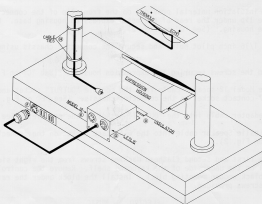

Fig. 2
6. Loosen but do not remove the four screws securing the expression housing to the wooden base of the console. (See "C" on Fig. 2).
7. Place the insulation material provided on the front lip of the connector chassis. Insert the lip under the rear of the metal expression housing base. Center the chassis behind the housing. (See "D" on Fig. 2).
9. Re-tighten the screws securing the expression housing. (See "C" on Fig. 2).
10. Remove the Model 12 speaker cable from the console "OUTPUT" socket and plug it into the 7-contact socket on the connector chassis. (See "E" on Fig. 2).
11. Plug the adapter cable into the "OUTPUT" socket on the console. (See "F" on Fig. 2).
12. Plug the Leslie Speaker cable into the 6-contact socket on the connector chassis. (See "G" on Fig. 2).
16. Route the control cable down the right-hand chrome stand and insert the plug into the 7-contact socket on the side of the connector chassis. Secure the control cable to the stand using the nylon cable ties provided. (See "H" on Fig. 2).